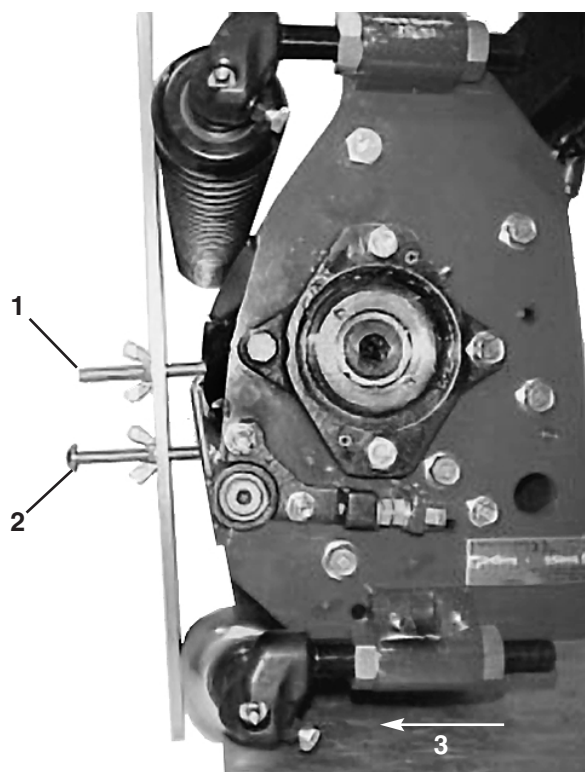

Figure 13
1. Place the gauge bar across the cutting unit's front and rear rollers as shown in Figure 13
2. Adjust the rear roller until it contacts the gauge bar on both sides (fig. 13).